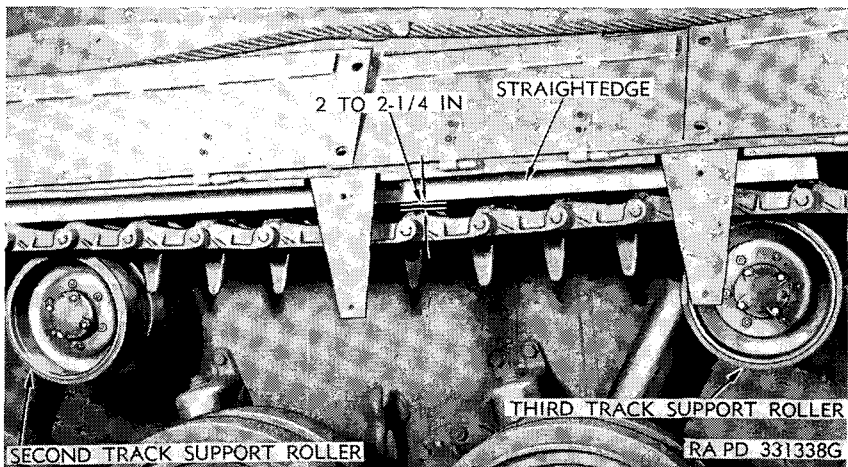

Figure 131. Checking track tension—steel track.
- (1) To check the track adjustment, move vehicle to level ground to assure normal track tension. Raise sandshields, place a 4-foot pry bar between the track and hull at a point between the two rear track support rollers and push the track down with 200-pounds pressure, as exerted at track. Lay a straightedge along the top of the track between the two rear rollers and measure the sag midway between these rollers (fig. 131). This sag should be from 2 to 2¼ inches (steel track). Track blocks must be adjusted to above figure when sag becomes 3½ inches or over. The proper adjustment for rubber track (T85E1) is 3¼ inches.